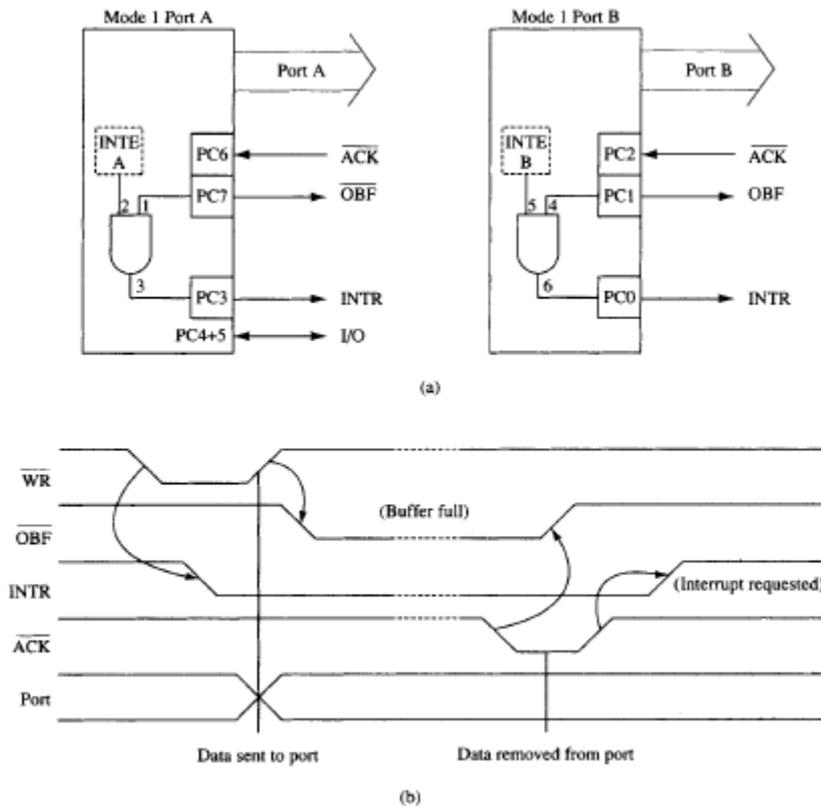

Figure 11-29: Strobed output operation of the 82C55 a) internal structure and b) timing diagram
- 3) Finally, ACK signal sets $\overline{OBF} = 1$ to indicate that the buffer is not full (Figure 11-29)